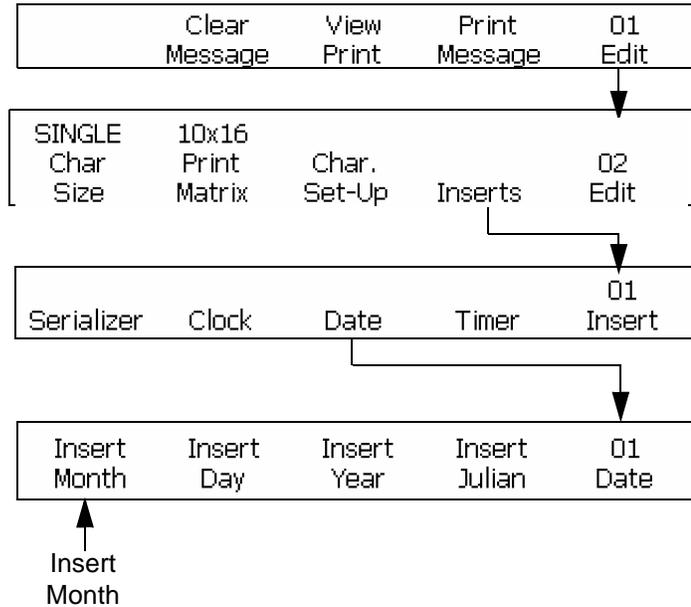

Figure 6-30: Accessing Frame <01 Date>
- 1 Begin in the Frame <01 Date>. Refer to Figure 6-30.